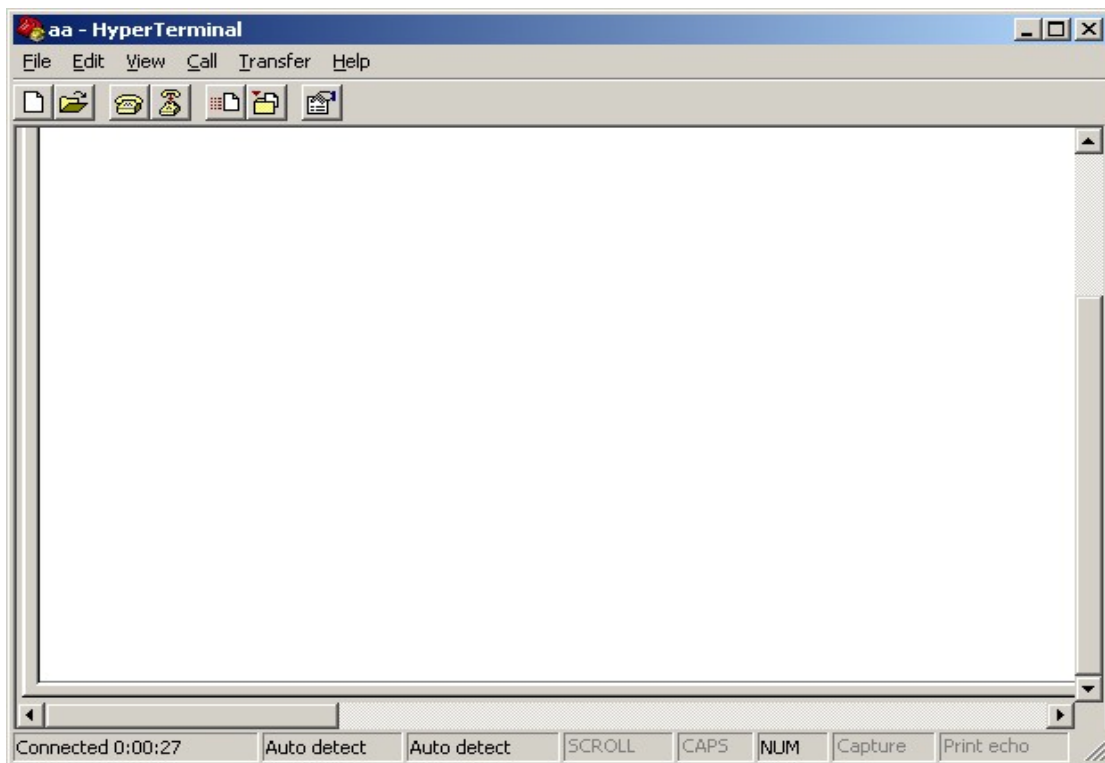

Fig. 3.1.4 Hyper Terminal Interface
finish, the Hyper Terminal interface like Fig. 3.1.4 will appear
Step 1: Enter into the Hyper Terminal. Click “ Start”→ “Programs”→ “Accessories”→ “Communications”→ “Hyper Terminal”→ “aa.ht”, the Hyper Terminal interface in Fig. 3.1.4 will appear.